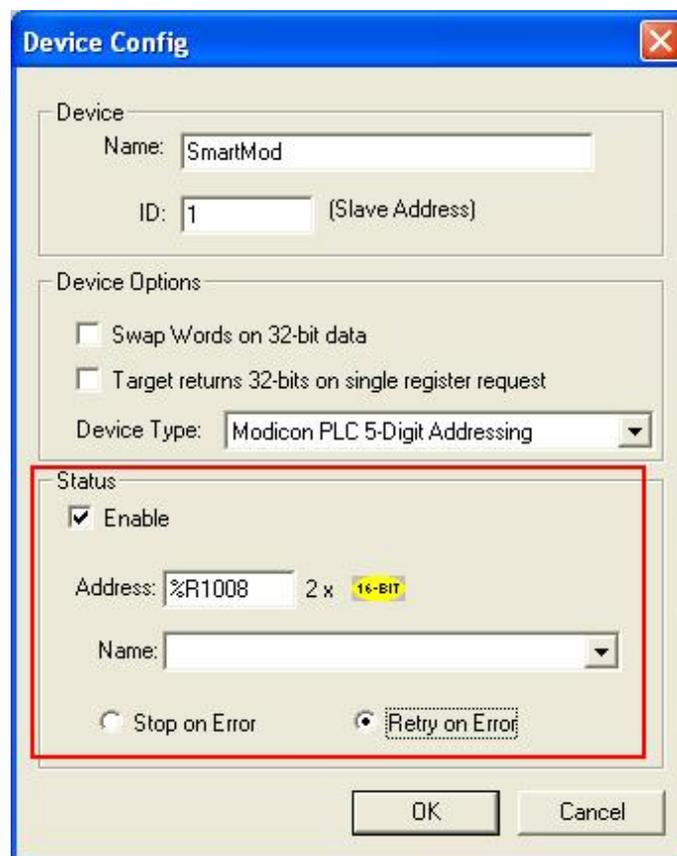

Fig. 13
3. If communications is established and good then expect to see the value in %R1006(7) increase.
4. If communications is established and bad then expect to see the value in %R1004(5) increase. Check the cable connections and or register addressing in **Cscape/Protocol Configuration/Scanlist**
6. For individual Modbus Nodes (SmartMods) another register can be enabled at **Cscape/Protocol Configuration/Device settings** as per Fig. 13